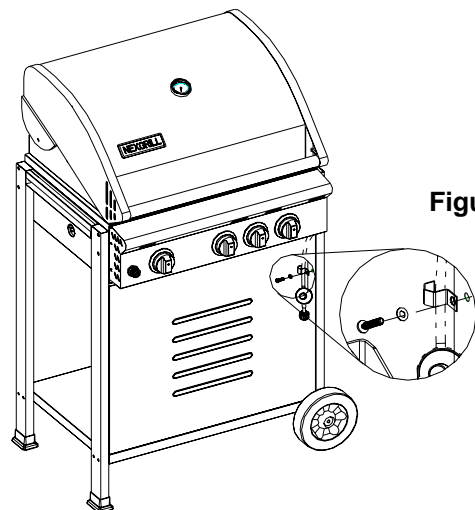

Figure 9
4. Attach and secure the regulator hose clamp and the regulator hose to the right front leg with (1) 1/4 x 3/5" Phillips screw head and 1/4" lock washer. (Fig.9)